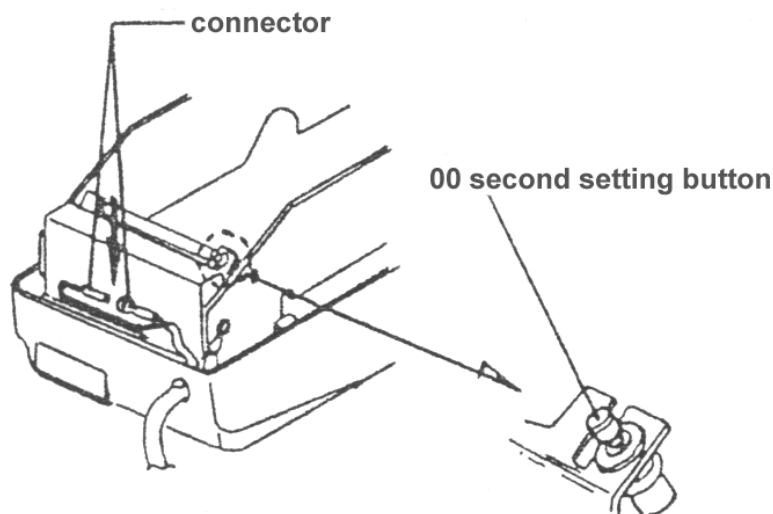

Figure 11.
(Refer to Fig. 11)
- After setting the clock and typewheel, plug the connector (see Figure 11) together so that the clock and typewheel start to advance.
- The time can be set even to the second by pushing 00 second setting button on the terminal board mounting plate (see Figure 11).